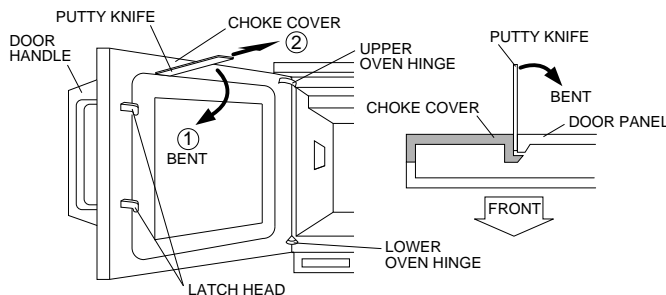

Figure C-7. Choke cover
1. Open the door and insert a putty knife (thickness of about 0.5mm) in gap between the choke cover and corner portion of door panel to free engaging parts. Refer to Fig. C-7.